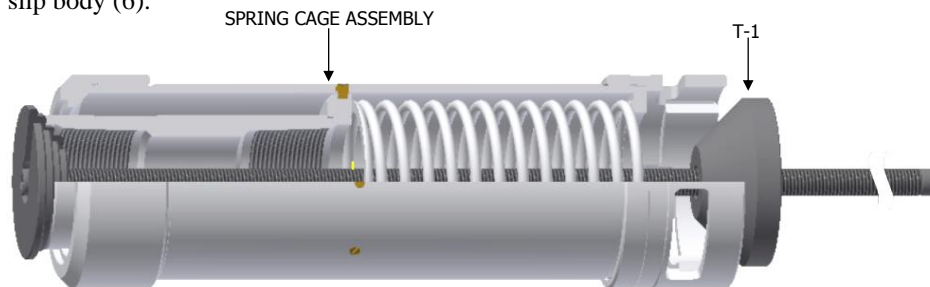

Fig. 2
J-1.18.1) Position assembly tool (T-1) hand-tight against top sub (1) and upper slip body (6) of spring cage assembly (Fig. 2).